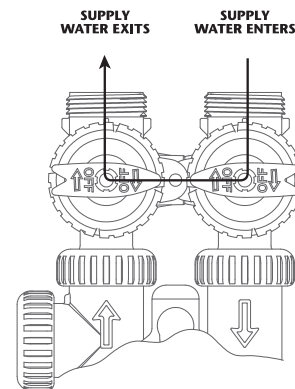

Figure 2
2. **BYPASS POSITION:** The inlet and outlet handles point to the center of the bypass. The system is isolated from the water pressure in the plumbing system. Untreated water is supplied to the building (**Fig. 2**).
1. Rotate bypass handles to the bypass mode (see Fig. 2 of page 4).
1. With the softener in the bypass mode (**Fig. 2 on page 4**) and the control valve in normal operation where the display shows either the time of day or the gallons remaining, manually add 3" of water to the regenerant tank.